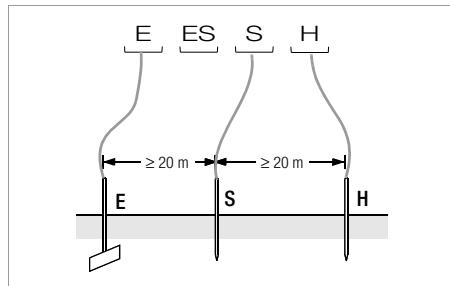

Figure 2 Measuring Earthing Resistance with a 3-Wire Test Setup
- ▷ Position the probe at least 20 meters, and the auxiliary earth electrode at least 40 meters from the earth electrode (see also Figure 2 on page 18).